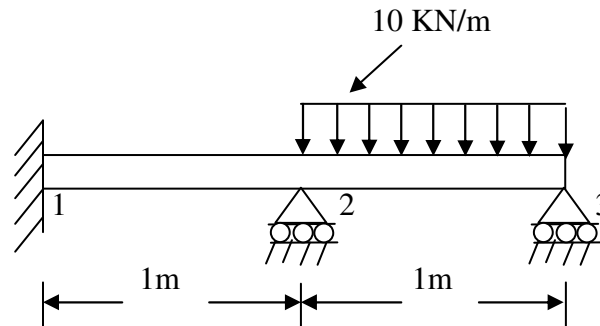

Fig.4
b) For a beam and loading shown in Fig.4, determine the slopes at 2 and 3 and the vertical deflection at the midpoint of the distributed load.